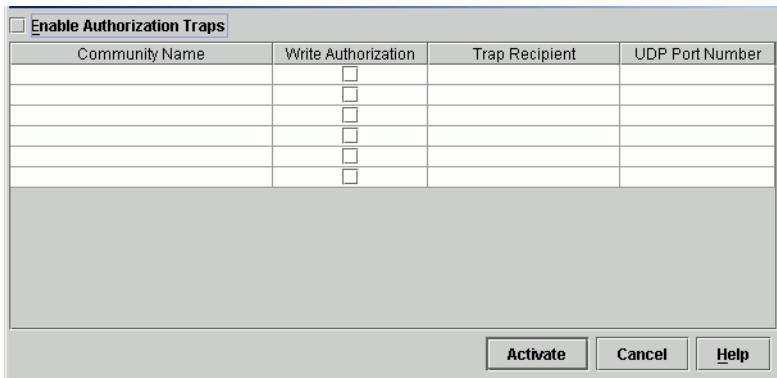

Figure 22: Configure SNMP Agent dialog box
- At the **Hardware View** page for the selected switch, choose **Configure > SNMP Agent**. The Configure SNMP Agent dialog box displays (Figure 22).